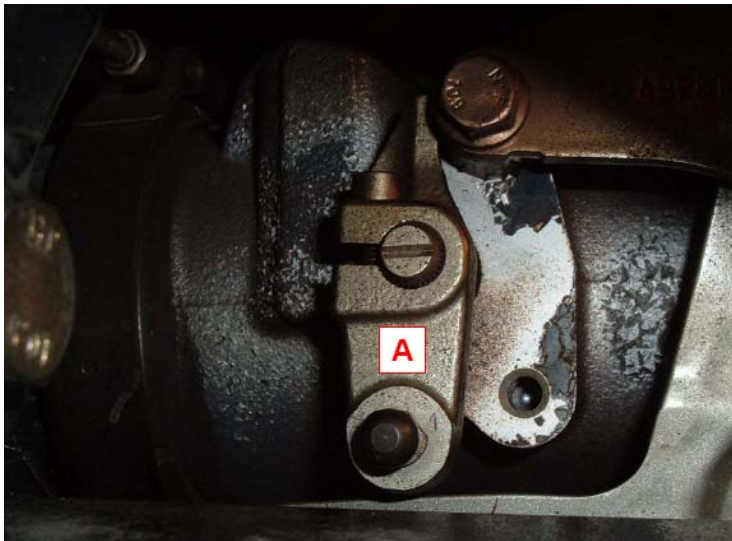

Figure 1 – Exhaust Flap Lever
3. The exhaust flap must be in the fully opened position, with the lever in a downward position (see Figure 1).